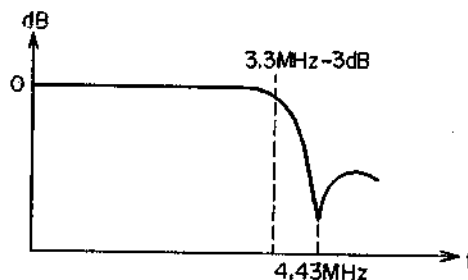

Fig. 53
The signal from AGC partially enters HA11703 as E-E, and is outputted to VIDEO OUT by E-E and PB switching. Fig. 53 shows the characteristic of LCB-52. The signal from the AGC enters REC-Y-LPF LCB-52 and the chroma signal of 4.43 MHz is removed. Since VS-5 does not change the band by color and B/W, the signal always passes this filter. Therefore, Pin ③ (Color-B/W change-over) of AN6310 is connected to Vcc and no change-over is made. Phase characteristic is improved because REC and PB are not using a same LPF.